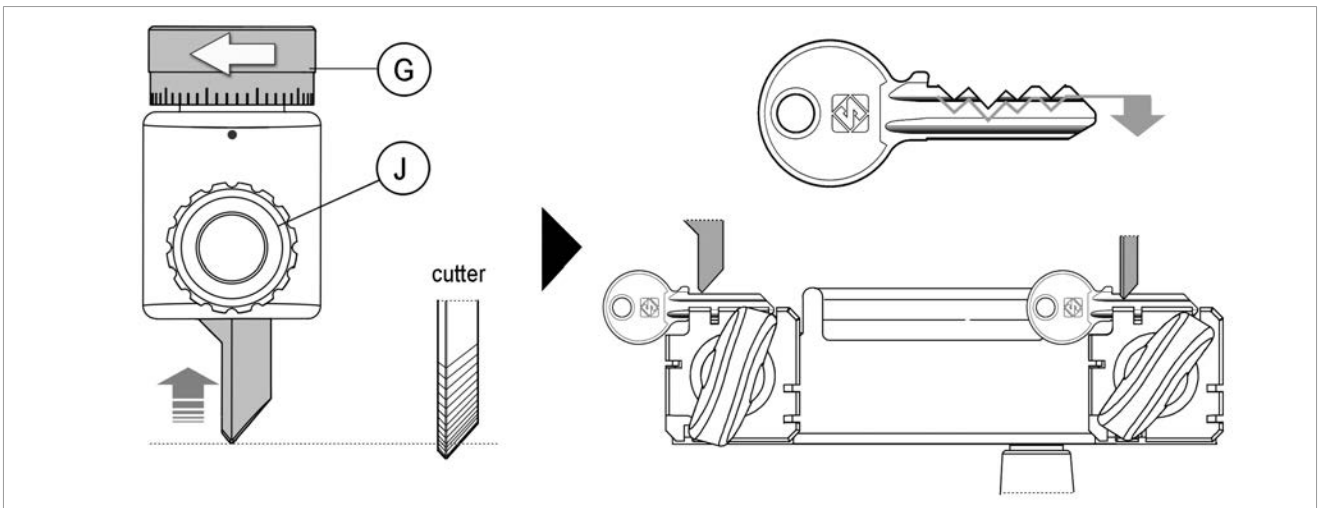

Fig. 20
- c) turn the ring nut (G) counterclockwise to return (deeper cuts) (Fig. 20).